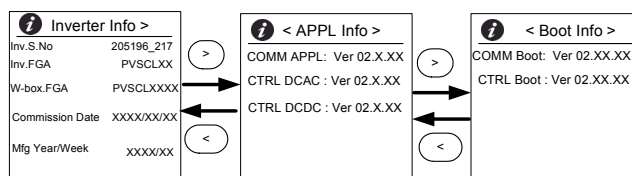

Figure 1-11 Inverter Info screen
17. After inverter comes up from boot, LCD should display “FW_UPDATE_COMPLETED” message on screen as shown in Figure 1-11 on page 1–8. All LEDs like Grid LED, PV LED and Fault LED are blinking with period of 1 second for 30 times to indicate firmware upgrade process completed.